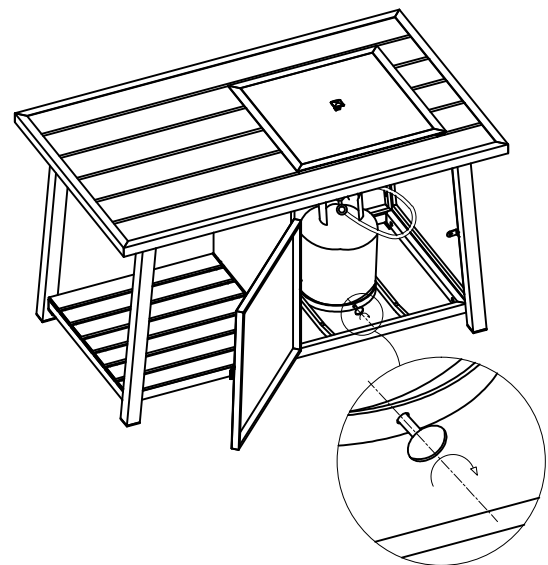

Fig. 3
- Put the tank into the tank rack. Use the rotation knob (#1) to position the tank in the tank rack. (Fig. 3)